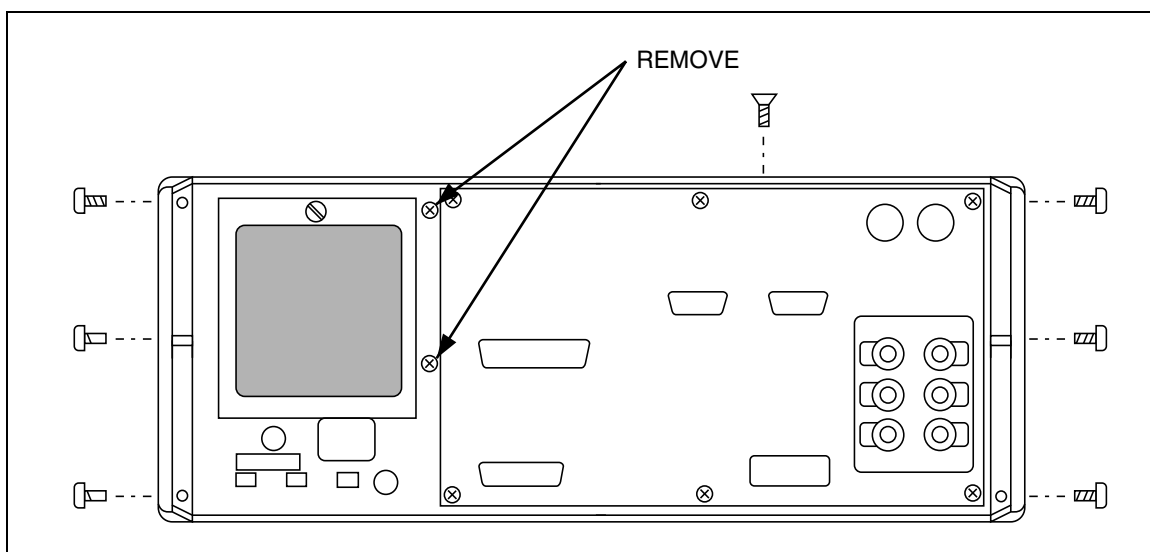

Figure 4-3. Rear Panel Removal
Detach the Rear Panel by removing the six hex head screws (three on each rear handle side) and the two Phillips head screws found along the side of the Fan Assembly. Refer to Figure 4-3 for screw locations.
7. Detach the Rear Panel by removing six hex screws (three on each rear handle side) and two screws near the fan filter on the Rear Panel. See Figure 4-3 for screw locations. Then grasp the handles and gently pull the Rear Panel away from the frame.